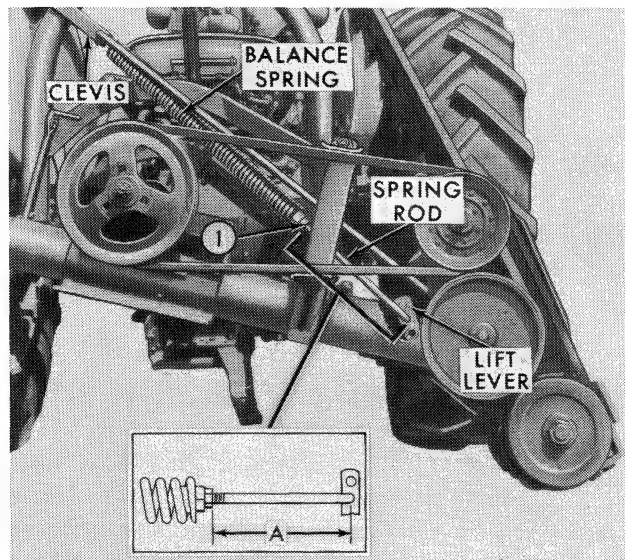

Figure 12
**Inner Shoe:** The balance spring, Figure 12, controls the weight carried on the inner shoe. To permit the cutter bar to follow the contour of uneven ground without excessive wear on the inner shoe, adjust the balance spring to the spring rod length shown in the Insert and described as follows:
3. Loosen the lock nut (1), Figure 12.
**Outer Shoe:** The weight on the outer shoe should be 25–30 pounds for the 6-foot bar, 30–35 pounds for the 7-foot bar, and 35–40 pounds for the 8-foot bar. To decrease this weight, place the spring rod in the upper hole of the lift lever as shown in Figure 12. Conversely, to increase this weight, place the spring rod in the lower hole of the lift lever.